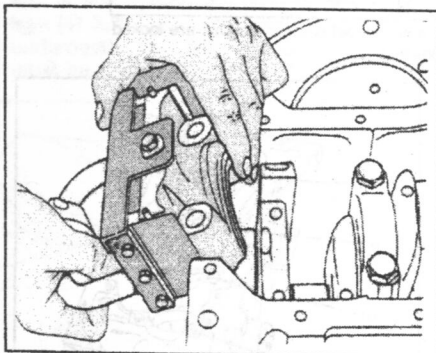

Fig. 1.32. — Fitting the rear main bearing cap with the special tool to fit the side seals. The two side shims must be inserted on the L.H. and R.H. sides.
- Insert new rubber seals into the bearing cap and fit the tool shown in Fig. 1.32 to the cap. Insert the assembly into the cylinder block, taking care that the two side shims are pushing against the seals. Lubricate the shims and fit the whole assembly into the block. As the special tool shown is most probably not available, you can use thin sheet metal and insert them between the cylinder block and the side seals. Knock the bearing cap in position and remove the special tool (or the sheet metal pieces).